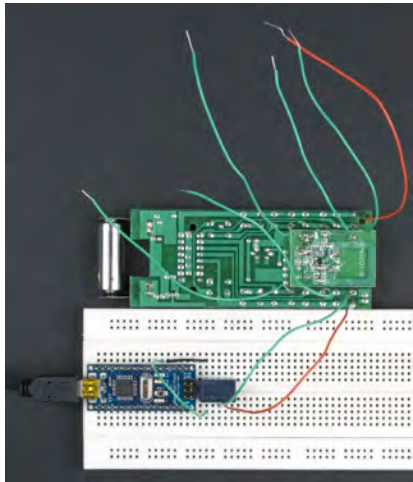
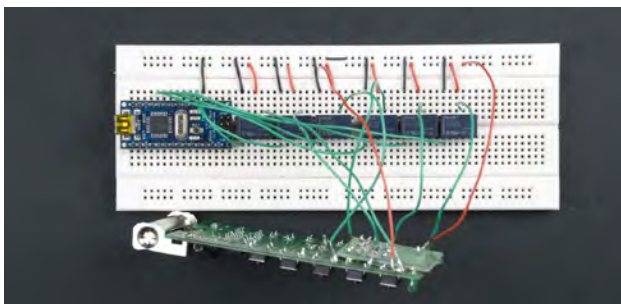
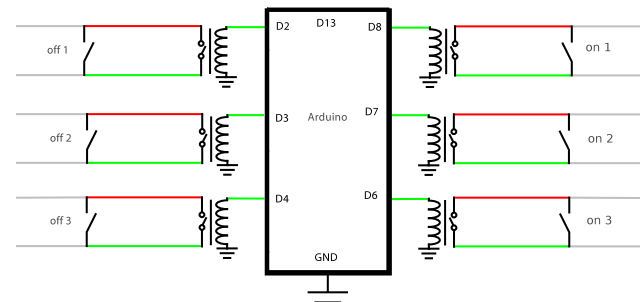

Figure 7-18. One relay controlling one button
Figure 7-20. Six relays connected to control six buttons
Figure 7-21. Circuit diagram
1. Insert the Arduino into the prototyping breadboard. Insert the relay into the board so that the white stripe is on the left, to the right of the Arduino, as shown in Figure 7-18. If your relay does not have a stripe, consult its datasheet (usually available online from the vendor where you purchased it) to determine the pin orientation.
4. The Arduino ground connects to each relay pin 1. Because there is a common GND wire from the Arduino to the relay (pin 1), you can connect the Arduino to the prototyping breadboard's top horizontal ground row and connect the relays to it with short jumper wires, as shown in Figure 7-20. Note that we've moved the connections to the remote control from the bottom half of the board—as shown back in Figure 7-18—to the top; this is possible because the relay has another set of pins across from the ones we used back in Figure 7-18. Figure 7-21 shows the circuit diagram.
Note the black jumper in the top middle of Figure 7-20. On most full-size breadboards, the top and bottom horizontal rows are continuous across them all. If your prototyping board has a gap like the breadboard shown in the figure, you might need to add a jumper as we did here.